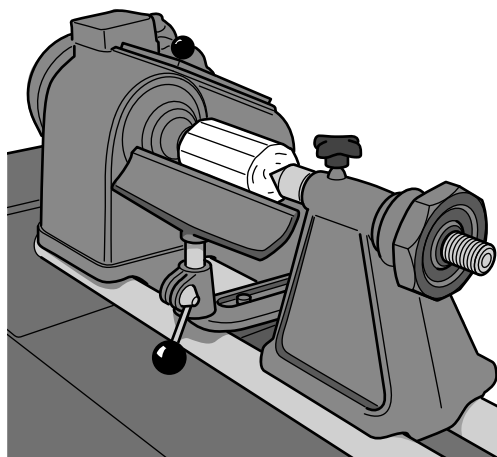

Fig. 9
- (c) The wheels will be produced using a woodturning lathe. Fig. 9 shows a length of beech set up on a woodturning lathe.
- (i) Name the method of woodturning shown in Fig. 9.